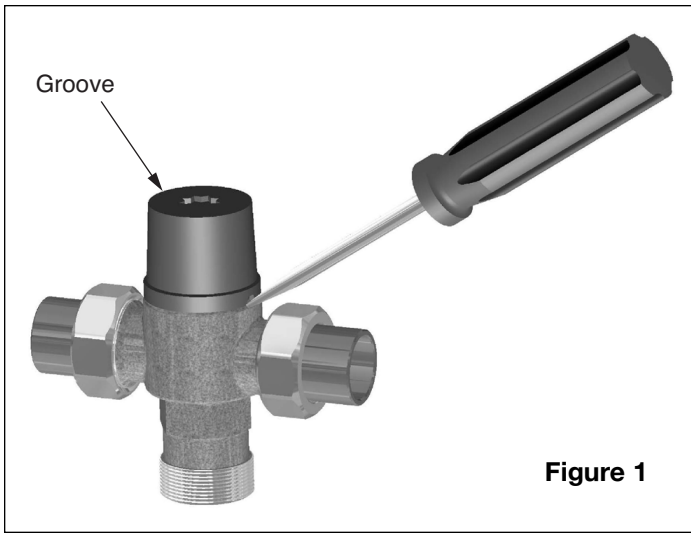

Figure 1
1. Remove the green knob by inserting a small screwdriver in the notch and gently prying up. (See Figure 1)